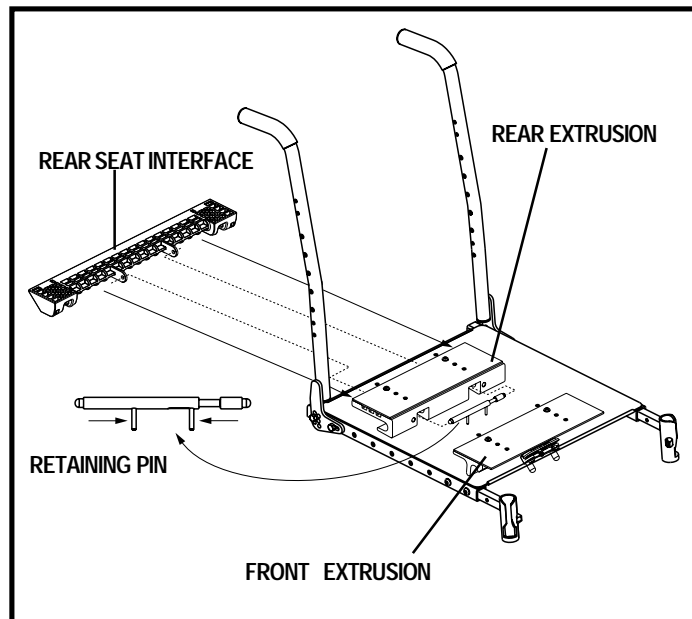

Figure 11. Rear Seat Interface Installation (Shown Without Armrests for Clarity)
The Quantum 1107 uses a seat interface system to attach the seat assembly to the power base assembly. This enables you to install and remove the seat quickly and easily. The main components are a pair of aluminum extrusions mounted to the underside of the seat base and seat interface mounted on the power base. See figures 11 and 12.
2. Slide the rear seat interface into the rear extrusion. See figure 11.